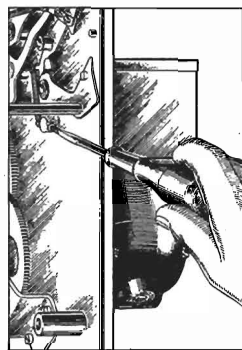

Figure 6—Adjusting tone arm loading screw
- (b) Improper adjustment of tone arm locating screw. This adjustment, shown in Figure 6, can be used to make a substitute adjustment for that described in (a), when the mechanism is out of the cabinet. Make the adjustment so that the needle will lower exactly  $\frac{1}{16}$ " from the first groove on a standard 10-inch record. Loosen the lock nut on the adjusting screw by means of a No. 4 Spintite wrench on which the shoulder has been ground sufficiently thin for clearance. Do not attempt to make this adjustment without first loosening the lock nut. Tighten the lock nut when the proper adjustment has been made.